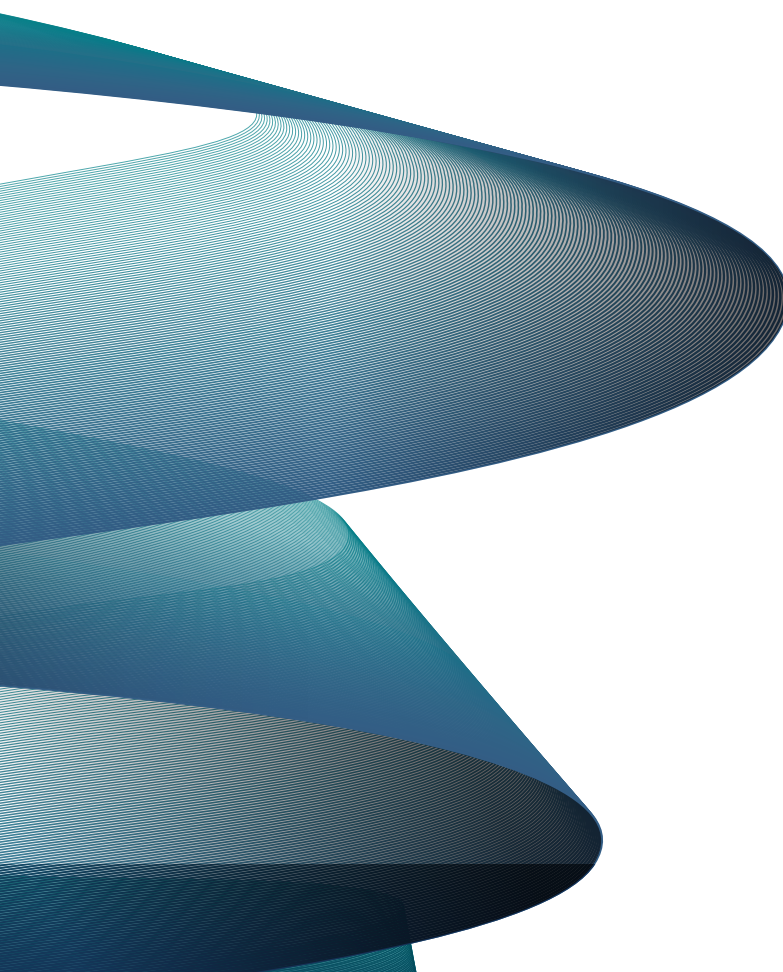

Fig.5 Sediment is removed with a vactor hose (First Defense model FD-4, shown).
Floatables clean out is typically done in conjunction with sediment removal. A commercially or municipally owned sump-vac is used to remove captured sediment and floatables (Fig.5).
4. Remove oil and floatables stored on the surface of the water with the vactor hose (Fig.5) or with the skimmer or net (not pictured).
6. Once all floatables have been removed, drop the vactor hose to the base of the sump. Vactor out the sediment and gross debris off the sump floor (Fig.5).